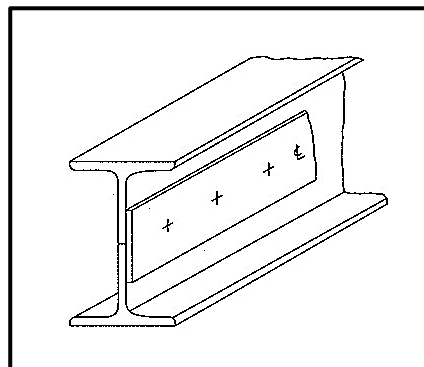

FIGURE 4.4
- (1)
4.4 Identify the template in FIGURE 4.4 below.